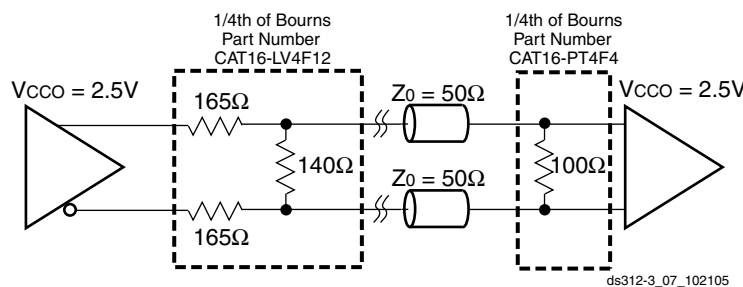

Figure 72: External Termination Resistors for BLVDS I/Os
2. Output voltage measurements for all differential standards are made with a termination resistor (R_T) of 100Ω across the N and P pins of the differential signal pair. The exception is for BLVDS, shown in Figure 72 below.